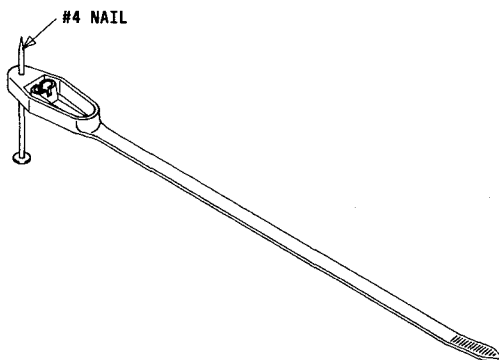

Fig. 1 — B Drive Tie
**1.03** The B drive tie (Fig. 1) is intended for holding cable or wire or wood surfaces. The B drive tie is a 1-piece black-plastic tie with a number four galvanized flathead nail protruding through a tab at one end. Installation is by driving the nail into a wood surface or a plastic anchor. The B drive tie will hold wire or cable up to 1-1/8 inches in diameter.